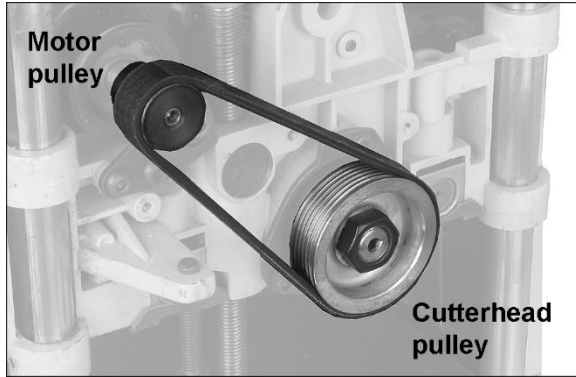

Figure 10-6: drive belt
6. Remove belt (Figure 10-6) by walking the belt from the motor and cutterhead pulleys alternately. Gently pull the belt while turning the pulleys at the same time.